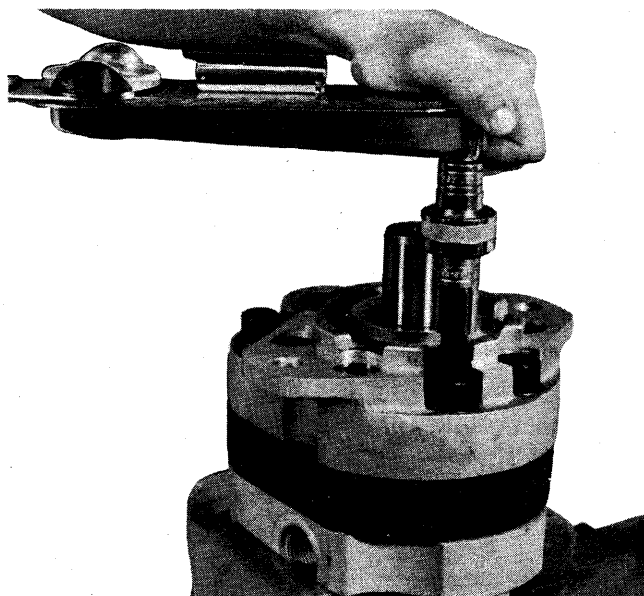

FIGURE 1
1.) Place motor in vise as shown in Fig. 1, tightening vise enough to prevent motor from rocking out. Excessive clamping pressure could damage the inlet and outlet ports. Normally the standard jaws will not contact spot-face of ports.
2.) Unfasten the nine cap screws holding the end caps and housing together. (Fig. 1.) Remove the cap screws completely from the assembly.